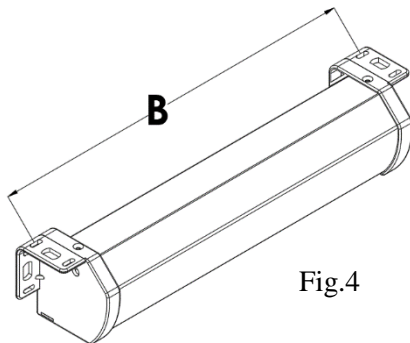

Fig.4
1. **Measure distance B** (shown in Fig. 4) between the **loops holes** on both end caps with a measuring tape.